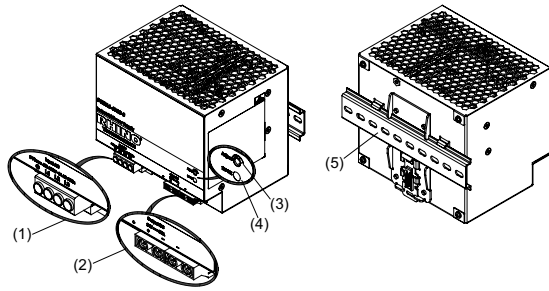

Figure 1
2. Device description (Fig. 1)
5.1. Input connection (Fig. 1, Fig. 5)
5.2. Output Connection (Fig. 1 (2))
Use the "+" and "-" screw connections to establish the 24 VDC connection. The output provides 24 VDC. The output voltage can be adjusted from 24 to 28 VDC on the potentiometer. The green LED DC OK displays correct function of the output (Fig. 1 (4)). The device has a short circuit and overload protection and an overvoltage protection limited to 35 VDC.